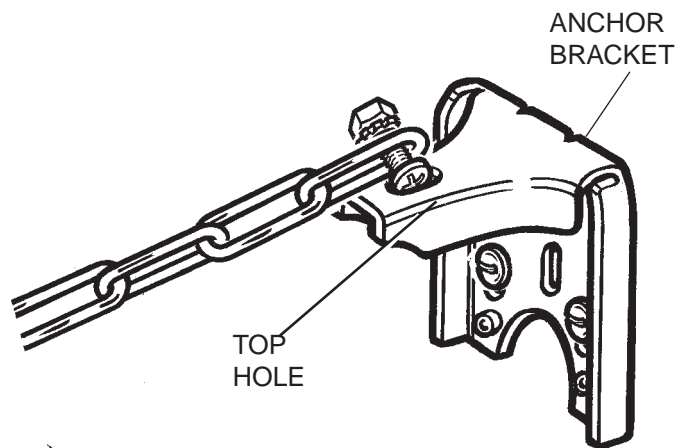

Figure 5 – securing the cooker
2. Insert the screwhead into top hole of the anchor bracket by tilting it sideways so that it is at an angle to the top hole when it is inserted. (Figure 5).